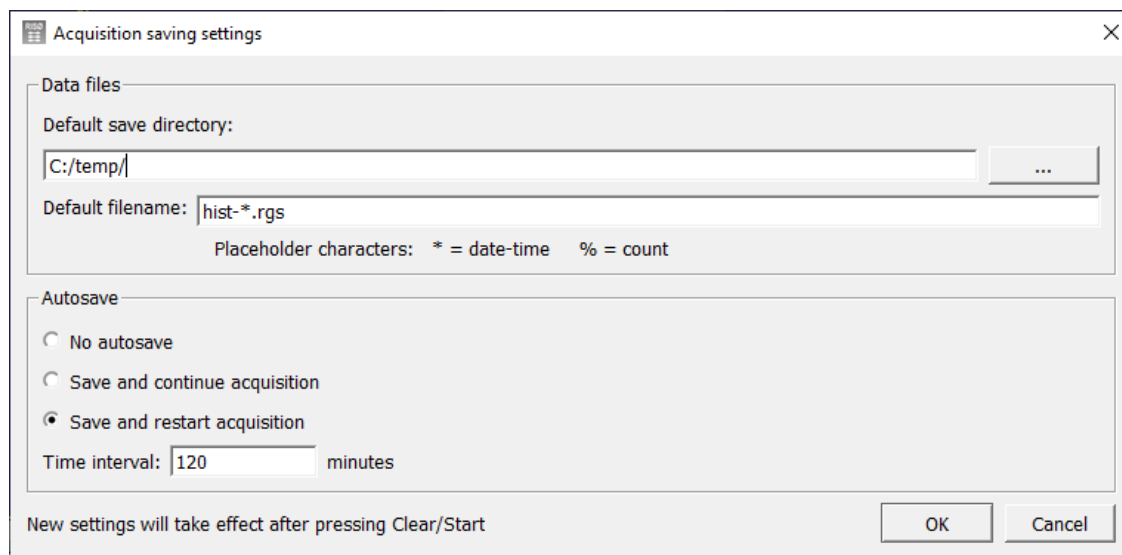

Fig. 1.6: Acquisition save setting window
1. Click "Clear/Start" button, the *Acquisition saving settings* pop-up window opens (see Fig. 1.6):